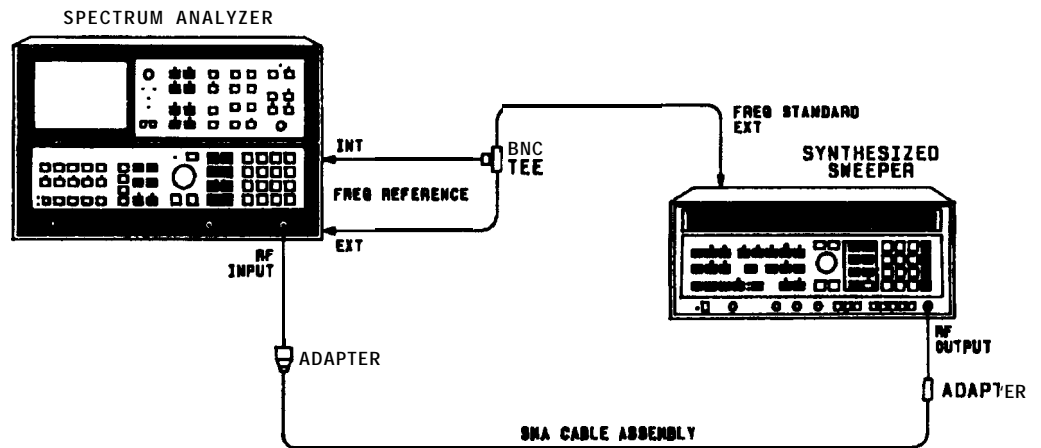

Figure 2-31. Image, Multiple, and Out-of-Band Responses Test Setup
1. Connect equipment as shown in Figure 2-31 with the synthesized sweeper RF OUTPUT connected to the analyzer input.